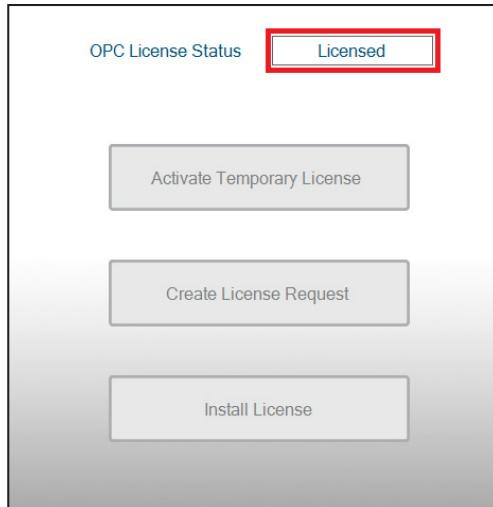

Figure 3.17 OPC License Status Box
10. Once the permanent license key file is successfully activated, the OPC License Status field will update from "Unlicensed" to "Licensed" as illustrated in Figure 3.17.